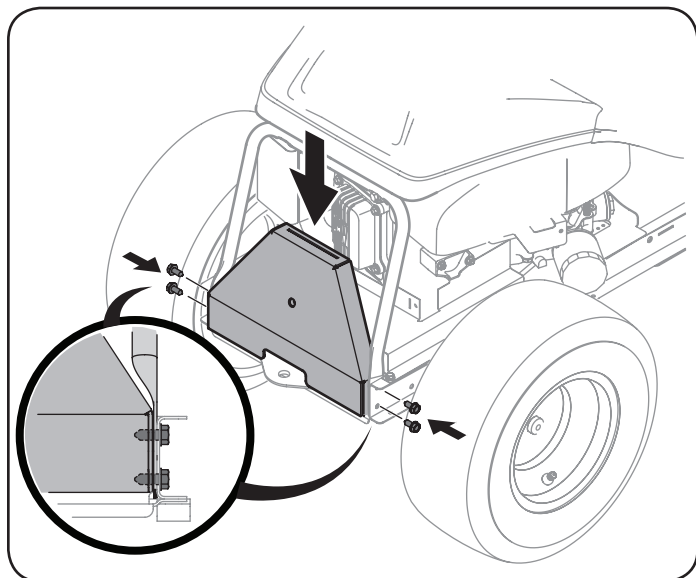

Figure 4
2. Install the bagger mounting bracket on the tractor, using four 710-1260A hex bolts from hardware pack 683-05147. Feed each hex bolt through the tractor frame, the rear hood mounting tube, and thread into the weld-nut on the bagger mounting bracket, as shown in Figure 4.